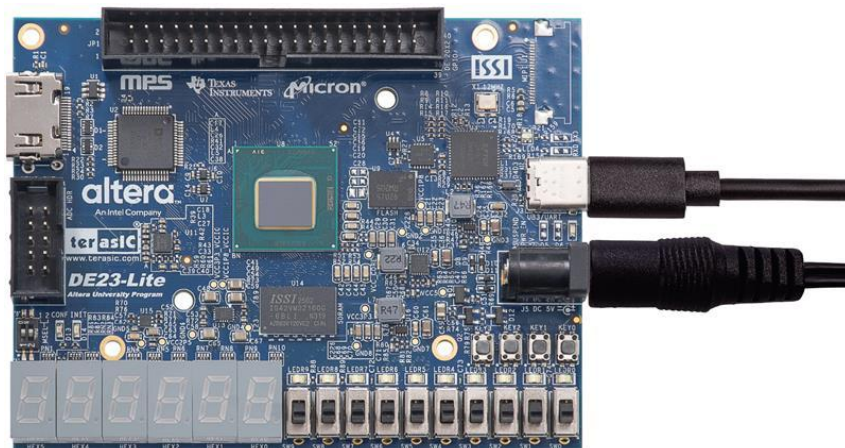

Figure 5-3 Power and USB cable connection for the board
5. Ensure that the USB blaster connector (J3) of your DE23-Lite is connected to your host PC with a USB cable (see **Figure 5-3**) and the board's power is powered on.
Ensure that the USB blaster connector (J3) of your DE23-Lite is connected to your host PC with a USB cable (see Figure 5-3) and that the board's power is turned on.